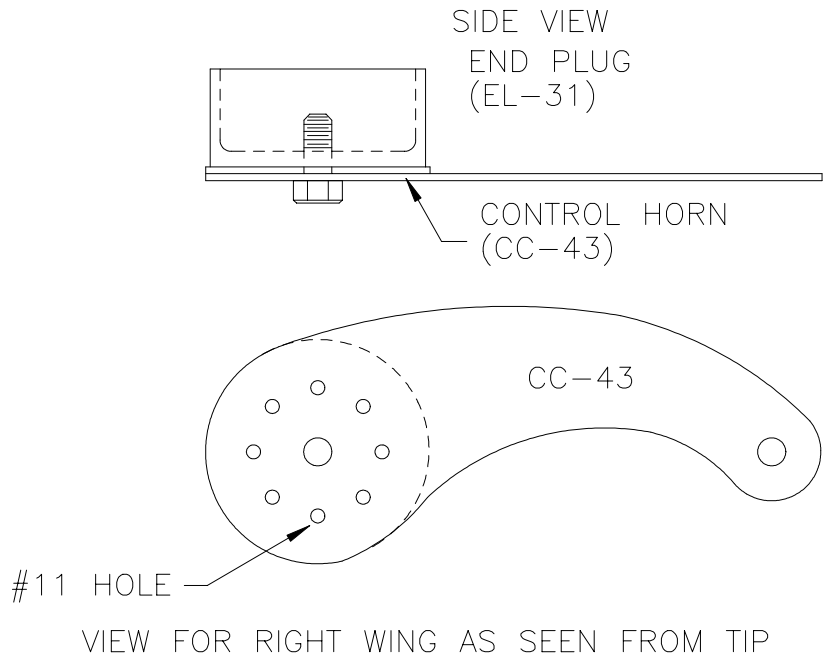

Figure 8.10.2
2) Align a Control Horn (CC-43) to an End Plug (EL-31) with a 1/4" bolt (no nut) and using the Control Horn as a drill template drill out the eight #11 holes into the End Plug. Cleco as you go. Ensure that the Control Horn is facing the direction for the wing that you are doing. Remove the bolt. Figure 8.10.2.